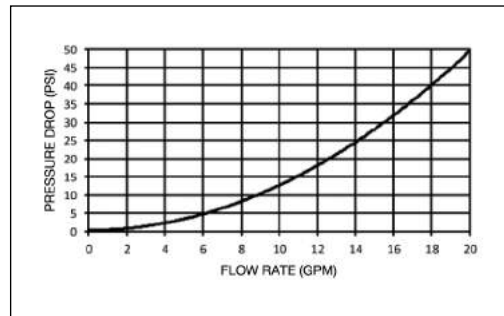

**Figure 2**
2. Turn both the hot and cold water supplies on. Open an outlet, preferably a sink or basin rather than a shower. To calibrate, let the water run for 2 minutes and measure the outlet temperature with an accurate thermometer. Use the inset on the top of the cover provided to fit over the adjustment screw, adjust the knob counterclockwise to increase temperature and clockwise to decrease temperature. (See Figure 2)